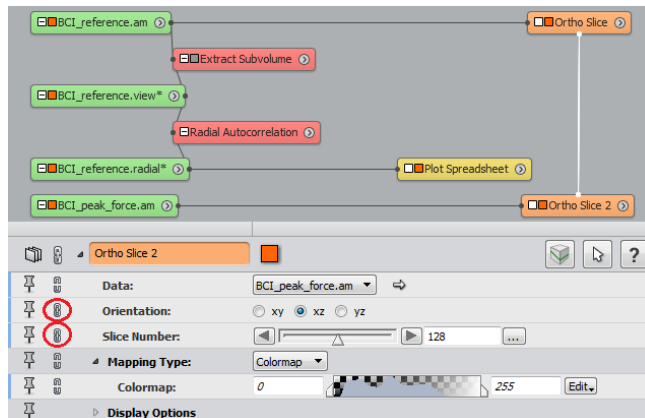

Figure 21.5: Connections between Ortho Slices
- Link the Ortho Slices attached to *BCI_reference* and *BCI_peak_force* using the Connection Editor (drag the *Slice number* port and the *Orientation* port of one Ortho Slice to the other on the Project View) (see Figure 21.5).